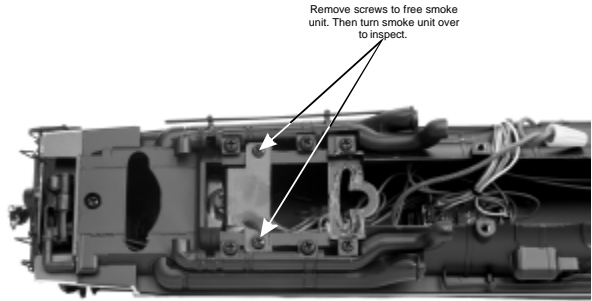

Figure 11
2. Remove the two screws securing the smoke unit inside the shell as seen in Fig. 11.
3. With the board free of the mounting screws, slide the assembly out of the boiler as seen in Fig. 11.